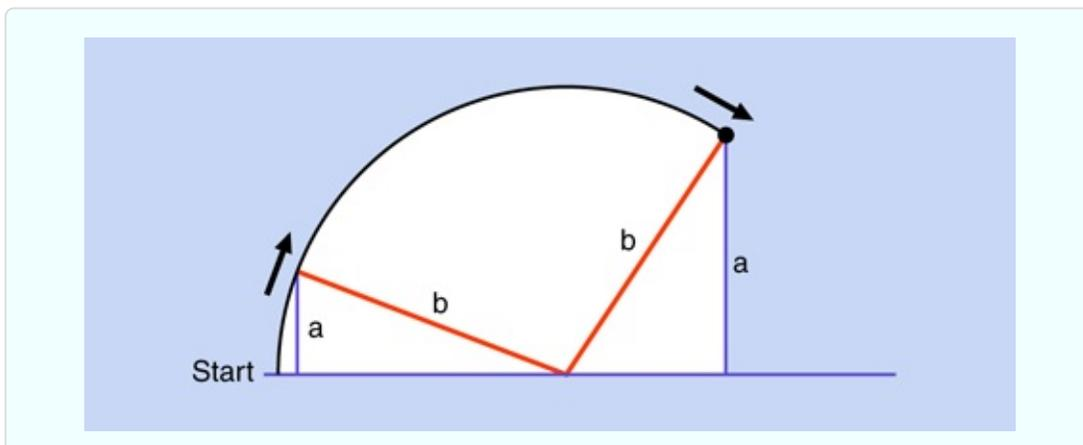
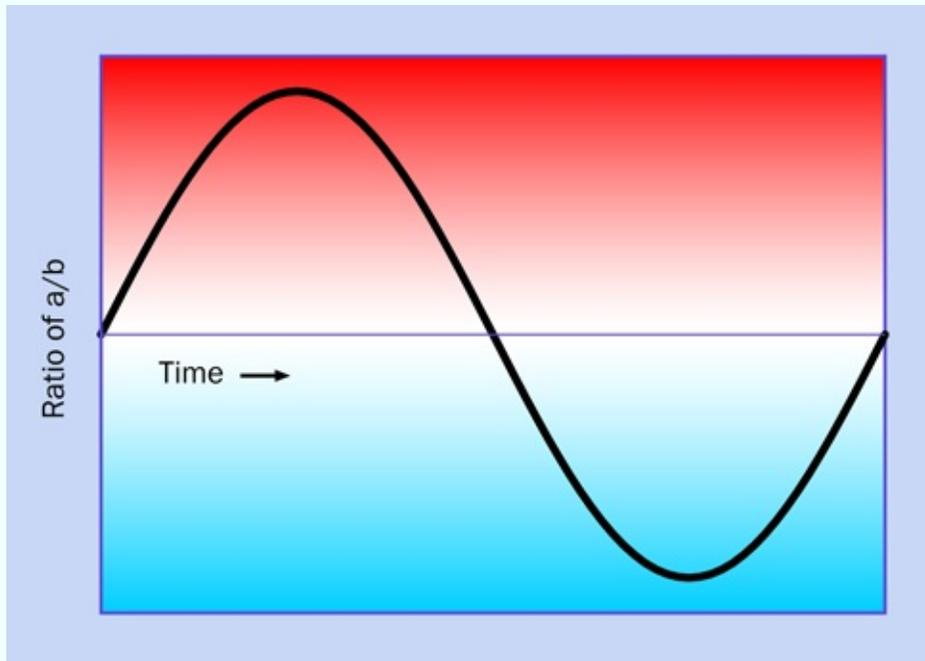

Figure 5-48. You can draw a sine wave by beginning with simple geometry.
Figure 5-49. An audio sine wave is generated by any instrument that uses a vibrating column of air—such as a flute. It is a gentle, harmonious sound.
To make this simpler, imagine a ball on a string rotating around a center point, as shown in Figure 5-48. Ignore the force of gravity, the resistance of air, and other annoying variables. Just measure the vertical height of the ball and divide it by the length of the string, at regular instants of time, as the ball moves around the circular path at a constant speed. Plot the result as a graph, and there’s your sine wave, shown in Figure 5-49. Note that when the ball circles below its horizontal starting line, we consider its distance negative, so the sine wave becomes negative, too.
- We can represent the higher and lower waves of pressure by voltages that are relatively high and relatively low, which is why I used the red and blue background in Figure 5-49.